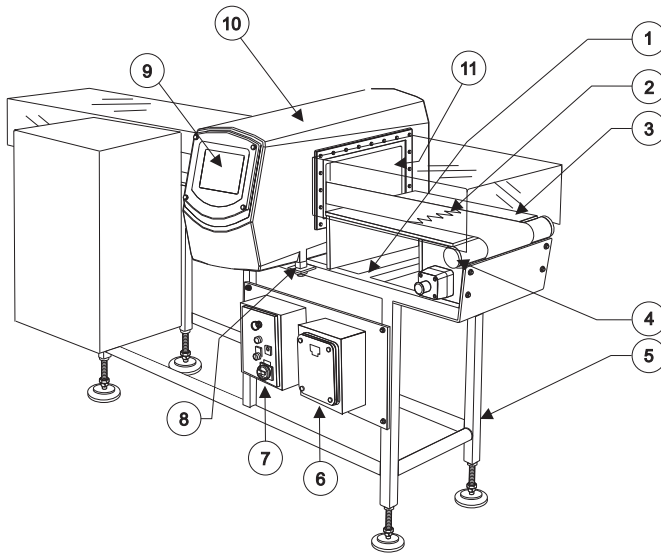

Figure 10: A typical installation
The design and construction of the metal detector support framework will influence the performance of the detector. A typical installation is shown in Figure 10.
- Make sure the frame cross-members (item 1, in Figure 10) are the maximum possible distance from the detector aperture.